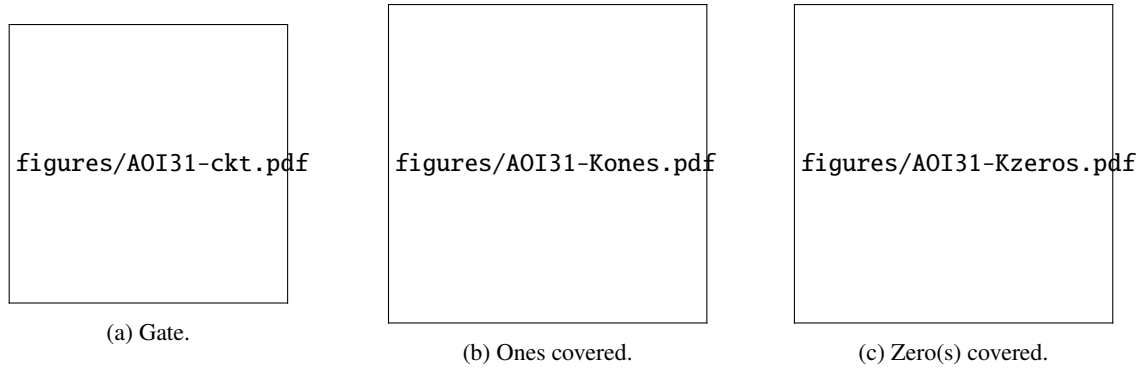

Figure 12.2: NAND4 (a) gate and corresponding Karnaugh map with (b) ones and (c) zeros covered.
- The circuit is a 4-input NAND gate. One solution with corresponding Karnaugh maps (ones and zeros) is shown in Figure 12.2. With the zeros covered it is easy to directly find the n-net, because the n-net implements the inverse of the logical function; in this case AND.